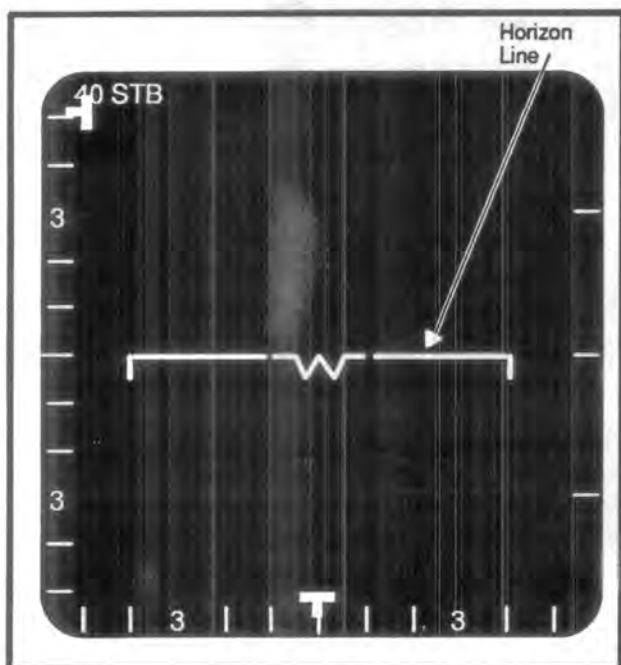

Figure 7-22 Standby Mode Format
7.194 Whenever the RCP MODE switch is in the STBY position, the Standby display is present on the radar DU. There is no video displayed; the antenna azimuth and elevation markers indicate the antenna "stow" position of 0 degree azimuth and 60 degree up; and the alpha-numerics at the top left corner of the display indicate the selected range scale and "STB" for the mode. The horizon line indicates aircraft roll and pitch angles. Figure 7-22 shows the standby mode display format.